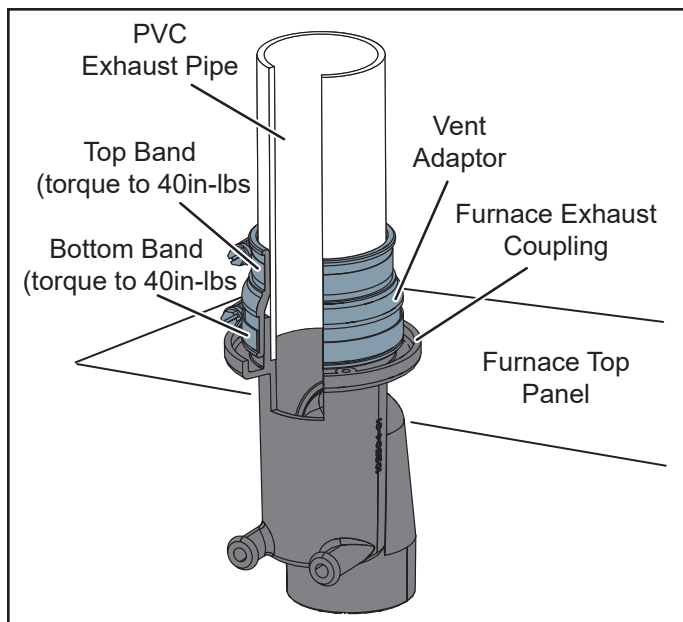

Figure 20. Vent Adaptor to Exhaust Coupling
NOTE: *Exhaust coupling must be installed with provided appliance adapter. See Figure 20.*
See Figure 20.
4. Tighten both top and bottom bands to 40 in-lbs. See Figure 20.